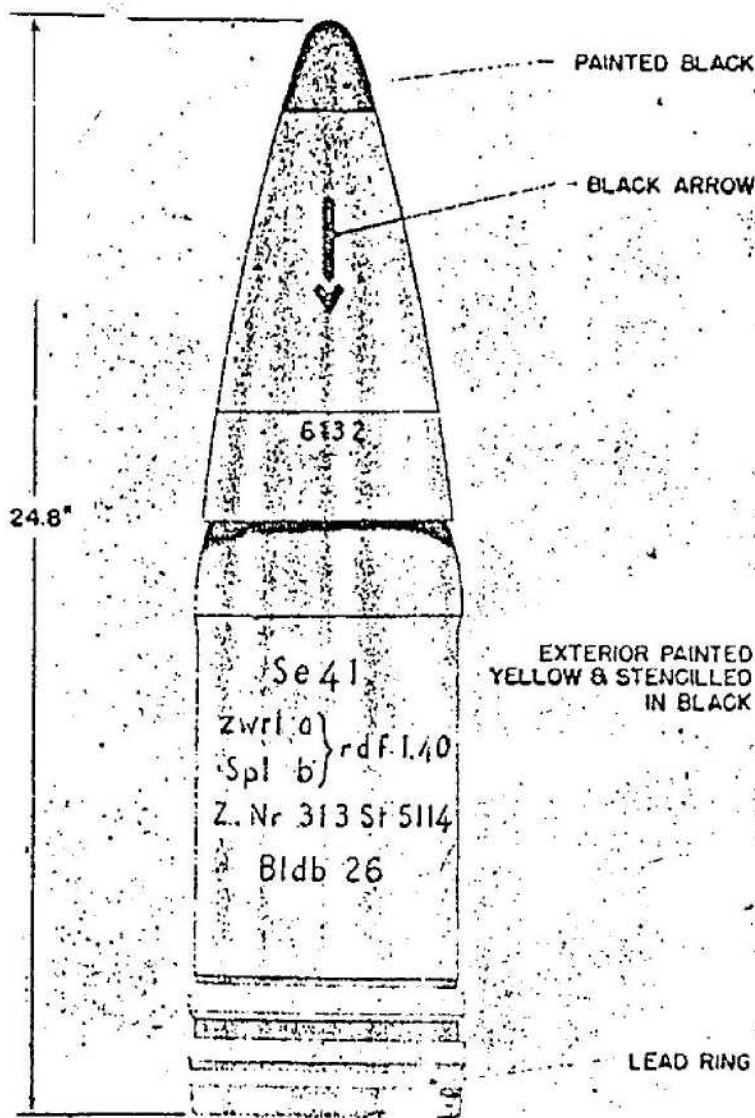

Figure 513—A. P. C. Projectile, 150-mm for Unknown Weapon
**GERMAN NOMENCLATURE:** Not known. (See fig. 513.)